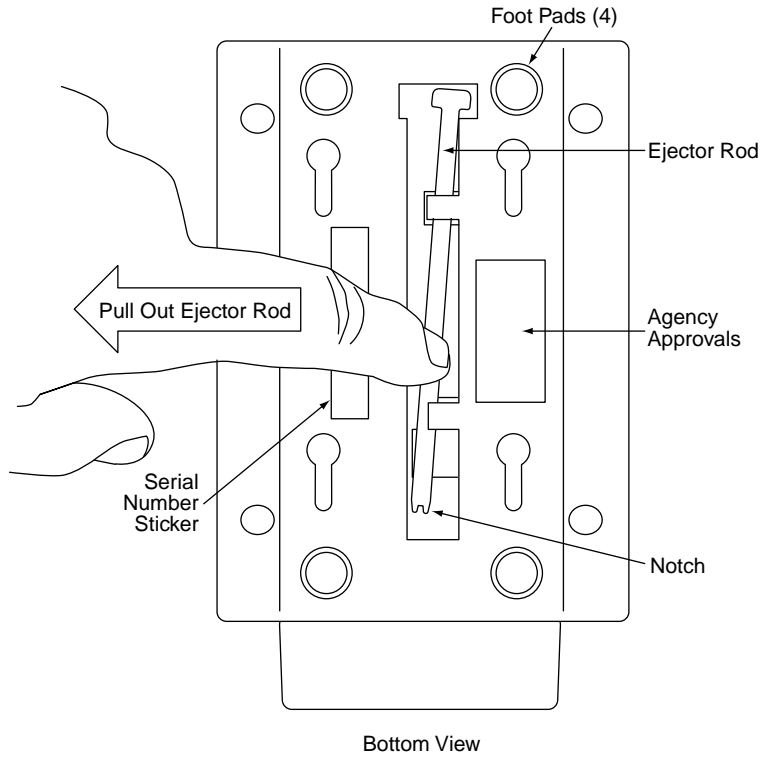

Figure 3-1. Ejector Rod Removal
1. Remove the Ejector Rod by sliding it from under the retaining tabs as shown in Figure 3-1.